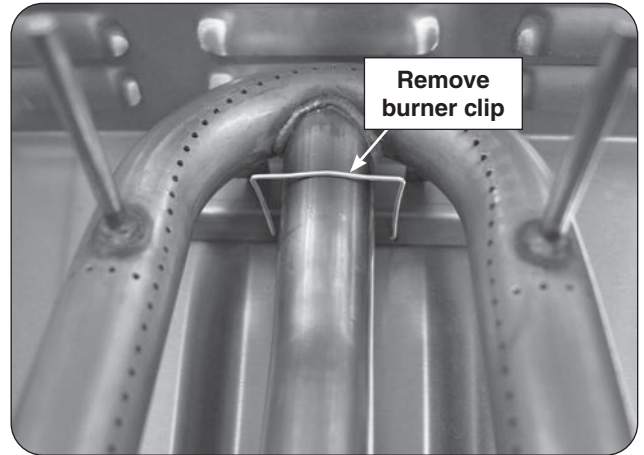

Fig. 31-1 Main burner removal
2. Locate the burner clip (located over the rear center tube of the burner) and slightly pinch and remove the clip from the burner support. See Fig. 31-1.